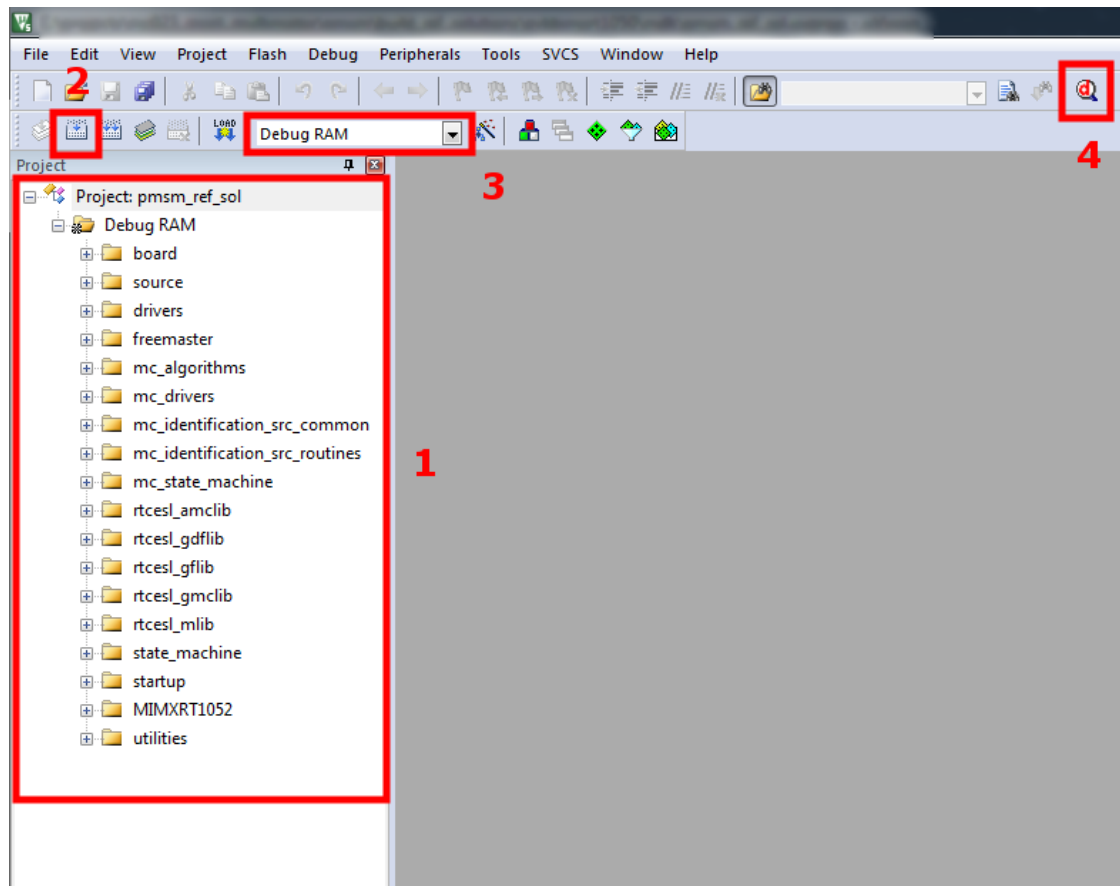

Figure 16. Keil workspace
- Point 1 in Figure 16 shows the imported project's file structure.
1. Select the “Debug RAM” build configuration (Point 3 in Figure 16).
3. Press the “Build” button (Point 2 in Figure 16).
4. After a successful build, the application is ready for download to the RAM. To perform this action, press CTRL+F5 or click the “Debug” button (Point 4 in Figure 16).
- To stop debugging, press the “Debug” button (Point 4 in Figure 16).
1. Select the “Release FLASH” build configuration (Point 3 in Figure 16).
- Press the “Build” button (Point 2 in Figure 16).
- After the compiled project is flashed, press CTRL+F5 or click the “Debug” button (Point 4 in Figure 16).